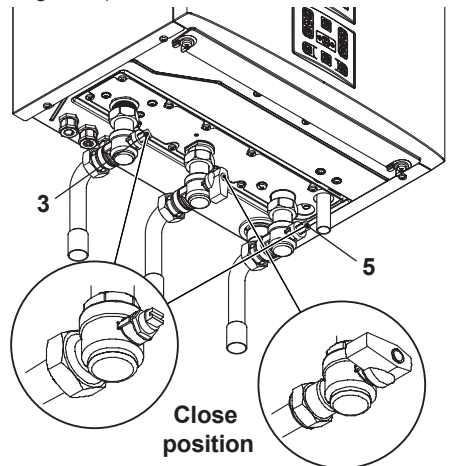

Fig. 10.9
- Close the C.H. isolating valves (3 and 5 in Fig. 10.9).